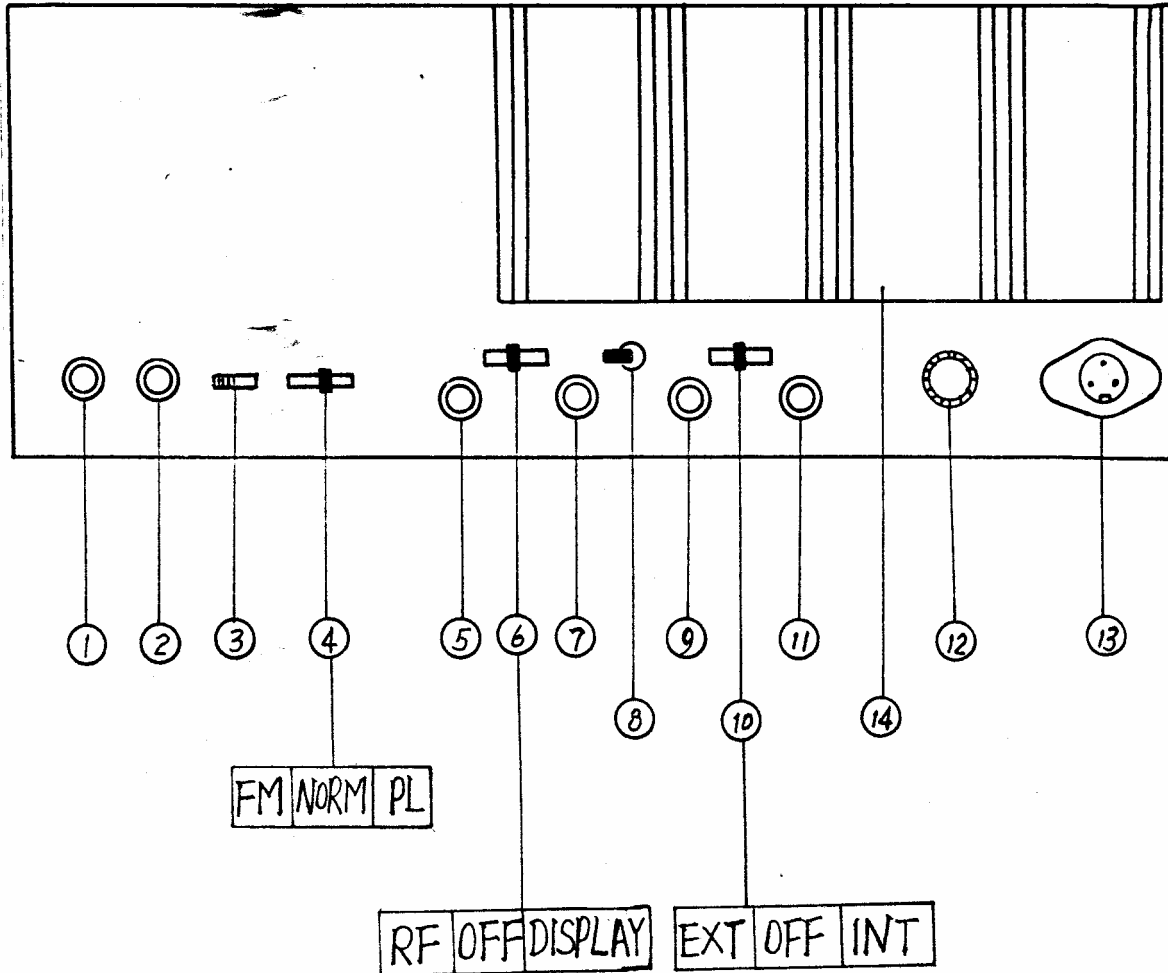

Fig.4. Rear Panel Features
5.2.2 Rear Panel Features (Refer to Fig.4)